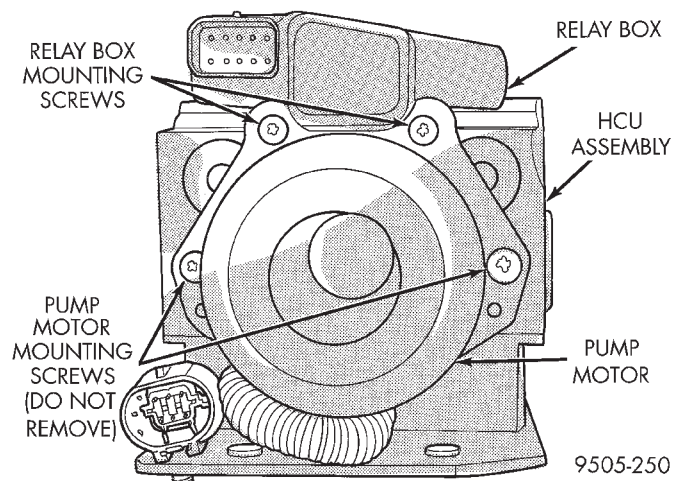

**Fig. 25 Relay Box To HCU Mounting Screws**
- (1) Disconnect negative (ground) cable from the battery and isolate the cable.
- (2) Remove the HCU from the vehicle. See Hydraulic Control Unit in the Removal And Installation Section in this group of the service manual, for the required removal procedure for the HCU.
- (3) Remove the 2 screws (Fig. 25) attaching the relay box assembly to the HCU. **Remove only the 2 screws mounting the relay box to the HCU do not remove the pump motor mounting screws (Fig. 25).**
(2) Position relay box on HCU and carefully align the terminals on the relay box with the terminals on the pump motor.
(3) Grasp relay box with both hands. Then without twisting or rocking, push relay box onto the pump motor electrical connector as far as possible by hand.
(4) Install and securely tighten the 2 screws (Fig. 25) attaching the relay box assembly to the HCU.
(5) Install the HCU back in the vehicle. See Hydraulic Control Unit in the Removal And Installation Section in this group of the service manual, for the required installation procedure for the HCU.
(6) Connect the negative (-) ground cable back on the negative post of the battery.
(7) Bleed the base brakes and the ABS brakes hydraulic system. Refer to the Bleeding ABS System in this section of the manual for the proper bleeding procedure.
(8) Road test vehicle to ensure proper operation of the base and ABS systems.